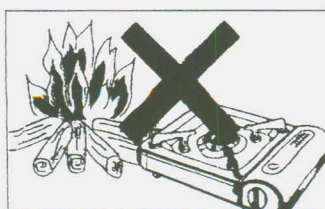

Fig.22
7. Do not use in the vicinity of the other heat sources such as an open flame, a space heater. (Fig 22)